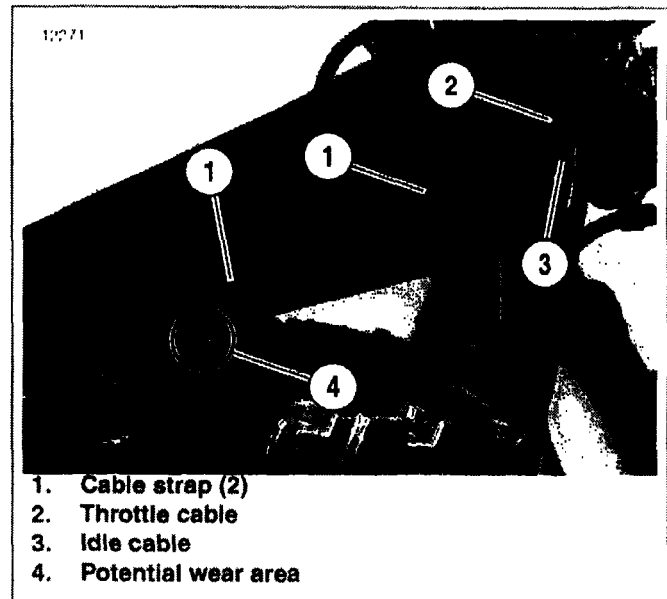

Figure 1. Throttle Cable Routing
2. See Figure 1. Remove and discard cable straps (1). Inspect throttle cable (2) and idle cable (3) for wear, particularly the potential wear area (4).